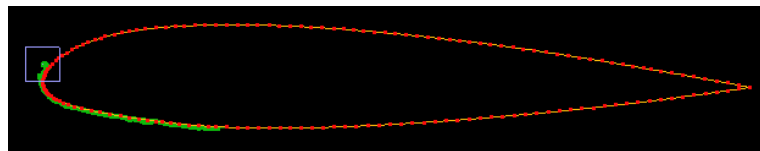

Figure 7. Geometry file: `NACA23015_2ice_scaled.elc`; clean airfoil selected.
- Notice that there are three objects: the full clean airfoil and two ice shapes. The clean airfoil is a closed element, meaning that its first and last points are at the same location (the trailing edge). The two ice shapes are open, meaning that the first and last points of the elements are not at the same location. Make sure that the clean airfoil is selected. Your geometry should look like that shown in Figure 7.